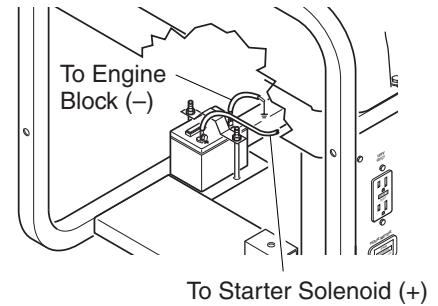

Figure 11 - MGH8500AIE - Connecting Positive and Negative Cables to Battery (Alternator Removed for Clarity)
2. Locate the red, positive (+) battery cable from starter solenoid. Connect it to the positive (+) battery terminal (see Figures 11 and 12).
3. Locate the black, negative (-) battery cable attached to engine block. Connect it to the negative (-) battery terminal (see Figures 11 and 12).